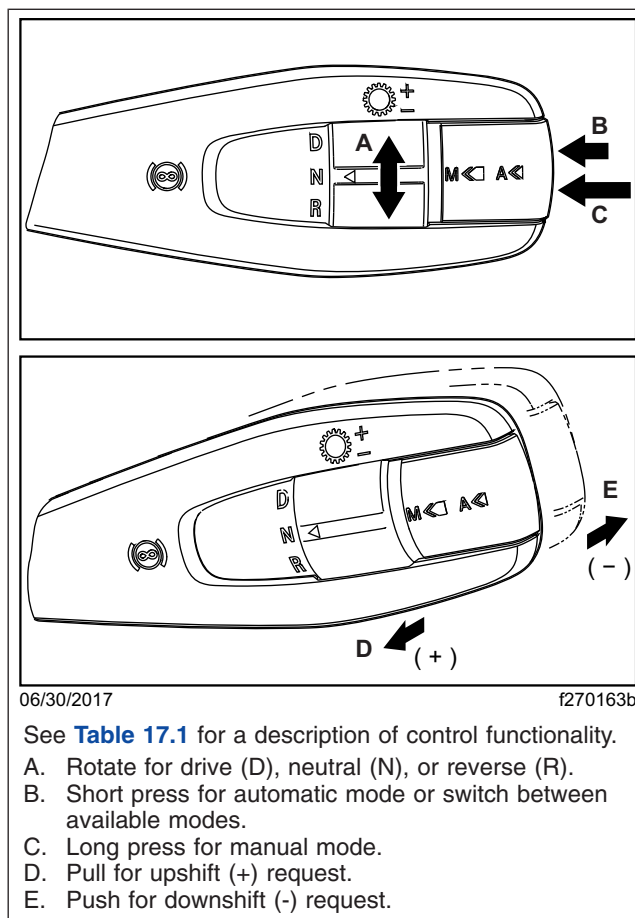
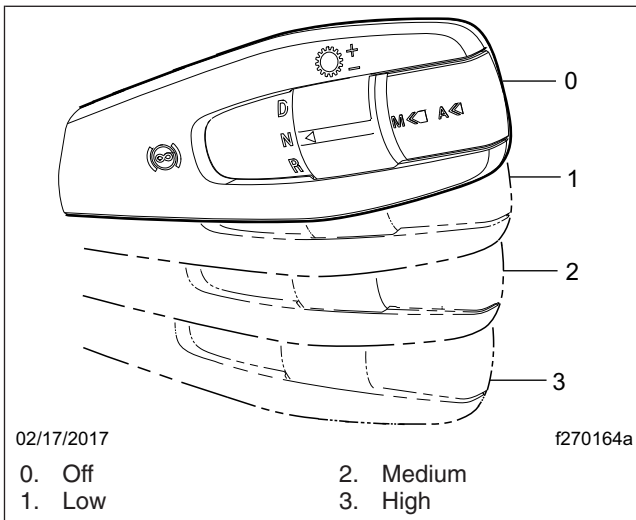

Fig. 17.1, Automated/Automatic Transmission Shift Control
Fig. 17.2, Engine Brake Positions
Vehicles with automated or automatic transmissions use the multifunction stalk switch control shown in Fig. 17.1 and Fig. 17.2. This control can be used to request manual shifts, change driving mode, and set engine brake levels. See Table 17.1 for an overview of control functionality.
Use the direction switch to request drive (D), neutral (N), or reverse (R). See Fig. 17.1, Ref. A.
The driving mode can be changed using the Mode switch on the shift control. See Fig. 17.1, Ref. B and C.
For automated and automatic transmissions, gear shifts can be requested manually; push the lever away to request a downshift, or pull the lever toward you to request an upshift (Fig. 17.1, Ref. D and E). See Table 17.1 for more information about upshift and downshift requests.
The engine brake is controlled by the lever position (as shown in Fig. 17.2). At the top position, the engine brake is off, and at the three lower positions, the engine brake is on and the intensity (low, medium, high) increases with each step down. For more information about using the engine brake, see Chapter 15.